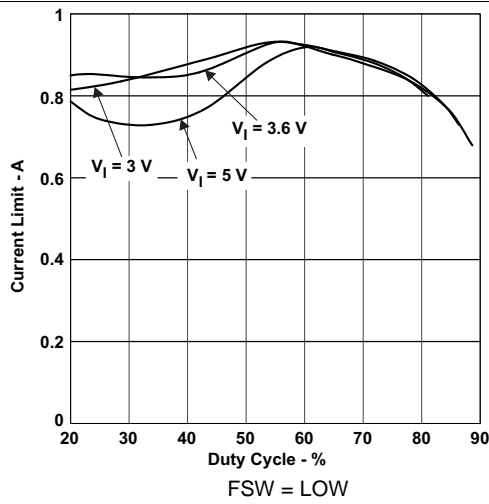
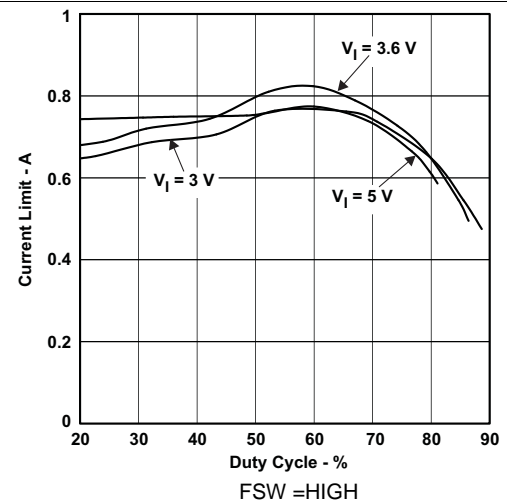
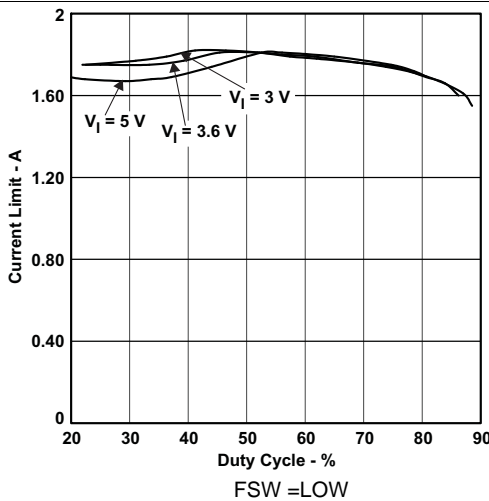
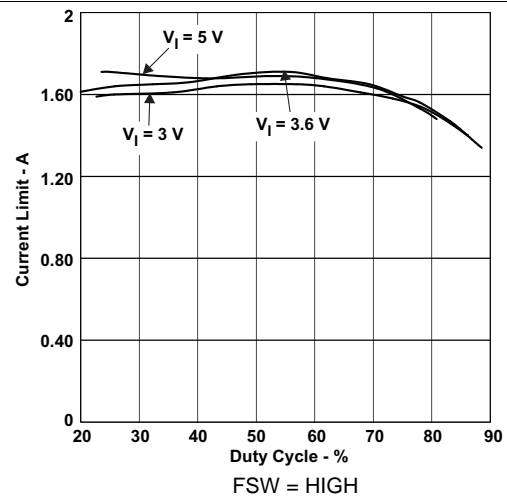

Figure 5. TPS61080 Overcurrent Limit
Figure 6. TPS61080 Overcurrent Limit
Figure 7. TPS61081 Overcurrent Limit
Figure 8. TPS61081 Overcurrent Limit
(1) VIN = 3.6 V, VOUT = 15 V, Duty cycle = 76%. See Figure 5 to Figure 8 for other operation conditions.
(2) OUT short circuit condition is detected if OUT stays lower than VIN – VSC for 1.7 ms after IC enables. See the Start Up section for details.
| Overcurrent Limit | VIN = 3.0 V, 3.6 V, 5 V, FSW = High/Low                                   | <a href="#">Figure 5</a> ,<a href="#">Figure 6</a> ,<a href="#">Figure 7</a> , <a href="#">Figure 8</a> |
To minimize the variation in the overcurrent limit threshold, the TPS6108x uses the VIN and OUT pin voltage to compensate for the variation caused by the slope compensation. However, the threshold still has some dependency on the VIN and OUT voltage. Use Figure 5 to Figure 8 to identify the typical overcurrent limit in your application, and use 25% tolerance to account for temperature dependency and process variations.